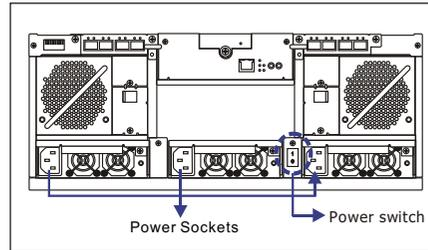

Figure 5: Locations of Power Switch and Power Sockets
- Step 5.** Power on the A24F-G2224 subsystem by turning on the power switch on the subsystem's rear panel. For the location of the power switch, please see **Figure 5**. The subsystem may take more than one minute for self test and system initialization.
- Step 1.** Connect the three (3) provided power cords to the power sockets on the back of the subsystem. (See **Figure 5**)